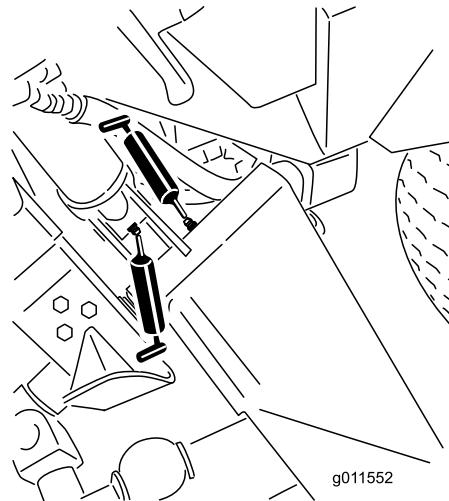
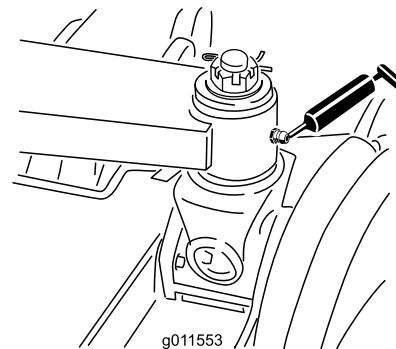

Figure 44
Figure 45
- Main lift arm bushings (6) (Figure 44 and Figure 45)